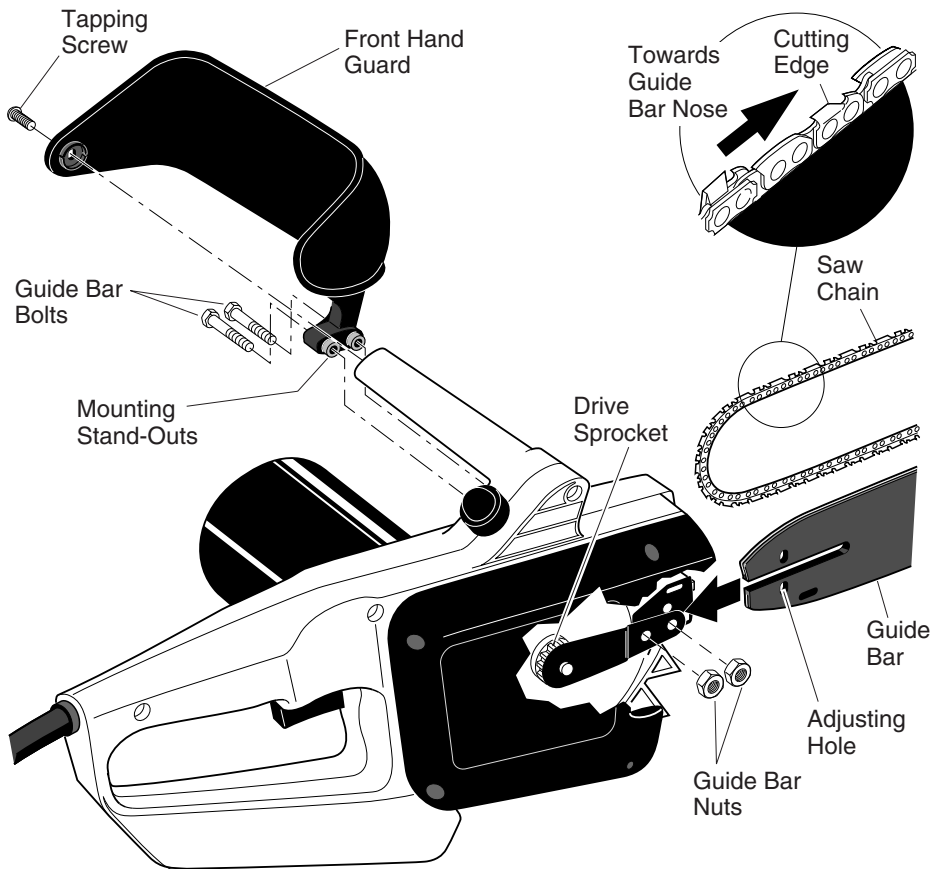

Figure 3 - Assembling Guide Bar, Chain, and Hand Guard
2. Install front hand guard onto saw body. Do this by pressing two mounting stand-outs on hand guard into hex-shaped holes in saw body (see Figure 3, page 7).
8. Place chain around drive sprocket, then along top groove of guide bar and around guide bar nose. **Note:** Make sure cutting edges of chain are facing the right direction. Position chain so cutting edges on top of guide bar face guide bar nose (see Figure 3, page 7).
1. Before adjusting chain, make sure guide bar nuts are only finger tight (see Figure 3, page 7). Also make sure adjusting block is in oval adjusting hole on guide bar (see Figures 3 and 4, page 7).